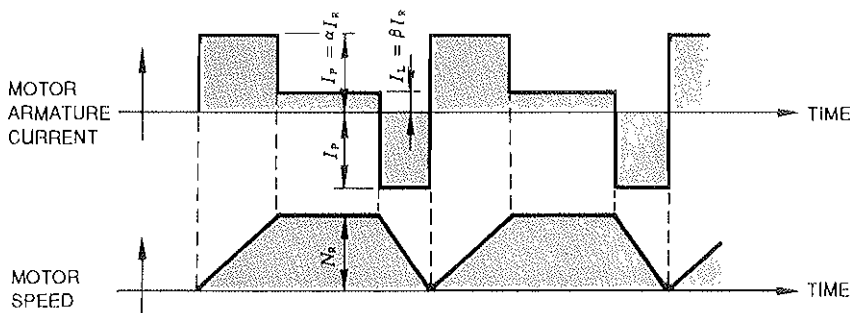

Fig. 4.5 Timing Chart of Motor Armature Current and Speed
- When the motor accelerates, runs at constant speed, and decelerates in a continuing cycle without being at standstill (Fig. 4.5).
The timing chart of the motor armature current and speed is as shown in Fig. 4.5.